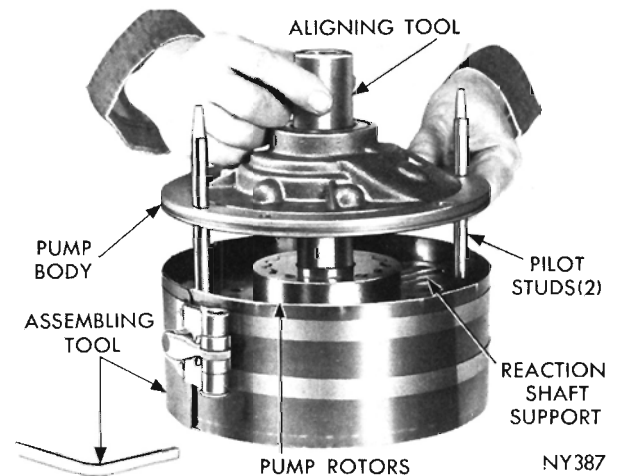

Fig. 62—Assembling Pump and Reaction Shaft Support (A-904)
(1) Place reaction shaft support in assembling Tool C-3759, with hub of support and tool resting on a smooth flat surface bench (Fig. 62). Screw two pilot studs, Tool C-3283 into threaded holes of reaction shaft support flange.
(2) Assemble and place rotors in center of the support (Fig. 62).
(3) Lower pump body over the pilot studs, insert Tool C-3756 through pump body and engage pump inner rotor. Rotate the rotors with tool to enter rotors in pump body, then with pump body firm against reaction shaft support, tighten clamping tool securely.
(4) Invert pump and reaction shaft support assembly with clamping tool intact. Install support to pump body bolts and tighten to 125 inch-pounds. Remove clamping tool, pilot studs and rotor alignment tool.
(5) Place a new oil seal in opening of pump housing (lip of seal facing inward). Using Tool C-3757, drive seal into housing until tool bottoms.